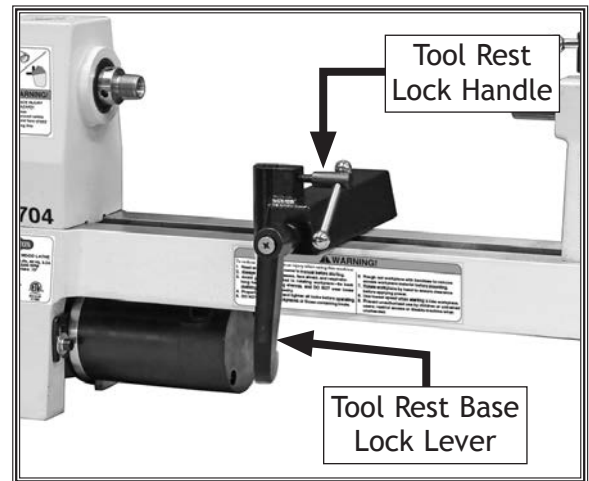

Figure 9. Hardware installed on tool rest base.
2. Install tool rest base lock lever and M6-1 x 28 tool rest lock handle, as shown in **Figure 9**.